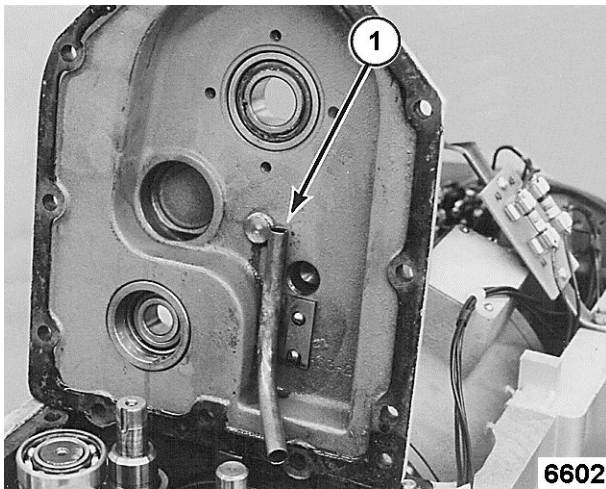

Fig. 5
- C. Make certain that oil is flowing from the oil delivery tube across the gear face [1] Fig. 5).